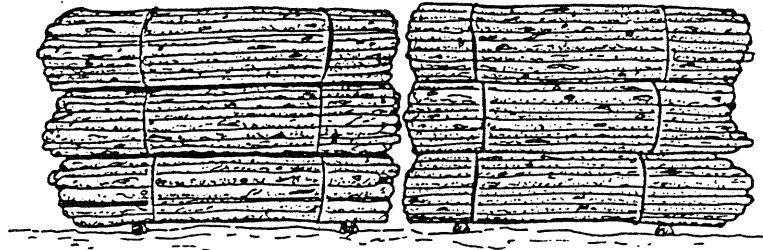

Fig 4-20
1. If your log bundles are not tapered, stack the bundles directly on top of each other in vertical piles as shown in Fig.4-20.